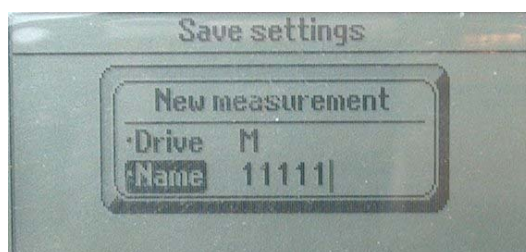

Fig. 22. File menu display, Name
- e. Enter a Name by using the  key and write the file name (max. 8 letters or numbers can be entered. **NO** symbols or space can be used). Fig. 22.